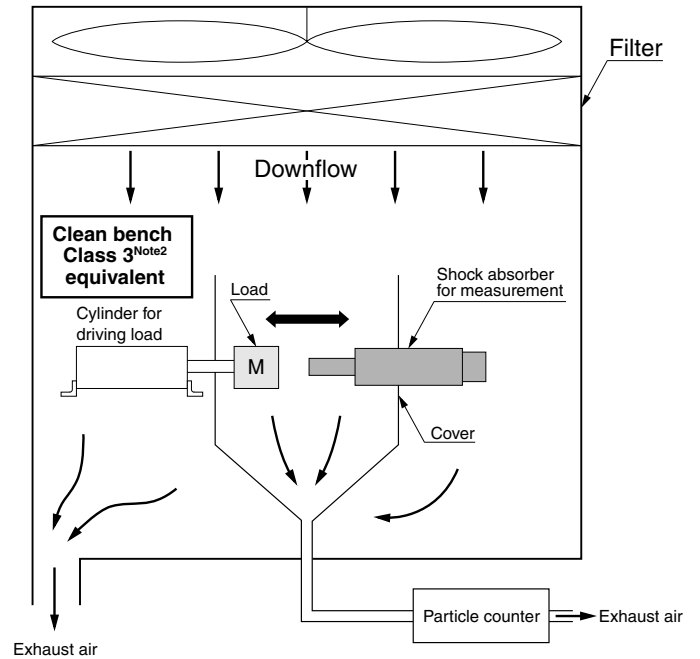

Figure 1
1. Measure particles in the clean bench (Figure 1) without activating the measurement use shock absorber and load driving cylinder in the clean bench (to measure the background valve).Note